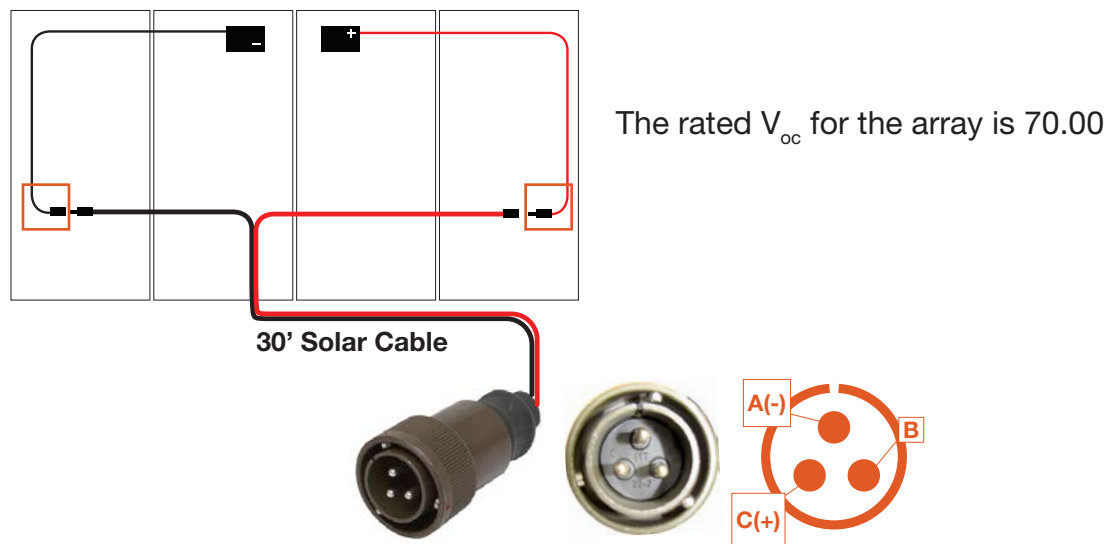

Figure 17. Measuring PV array open circuit voltage V_{oc}
If a disparity in performance is observed during normal operation, measure the voltage of each array independently using a handheld multimeter (Figure 17) or the meters provided in the Power Hub User Interface (See System Manual).
- Carefully place the leads of the voltmeter on pins A and C in the bayonet connector (Figure 17) at the end of the Solar Cable. Pin B is unused.
- Alternatively, disconnect the Solar Cable from the array leads and place the meter probes into the array lead connectors (orange boxes in Figure 17).